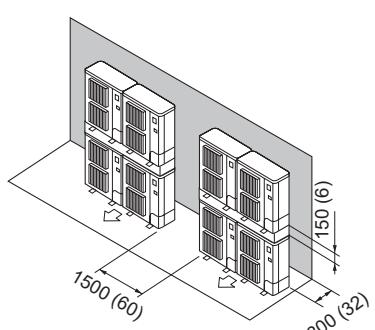

Fig. 2-18
(7) Stacked unit arrangement (Fig. 2-18)